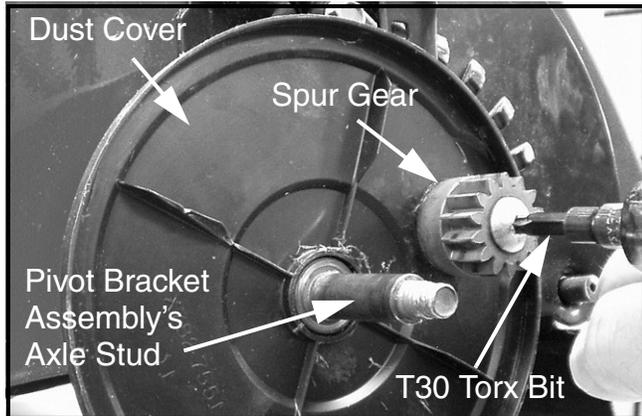

FIGURE 6
14. Using a T30 Torx bit and ratchet **and holding the vise grip pliers to keep the transmission axle from rotating**, remove the Torx head screw retaining the spur gear at both ends of the transmission's output shaft. Note the assembly sequence as you remove the spur gear, dowel pin, flat washer and wheel dust cover. See Figure 6.